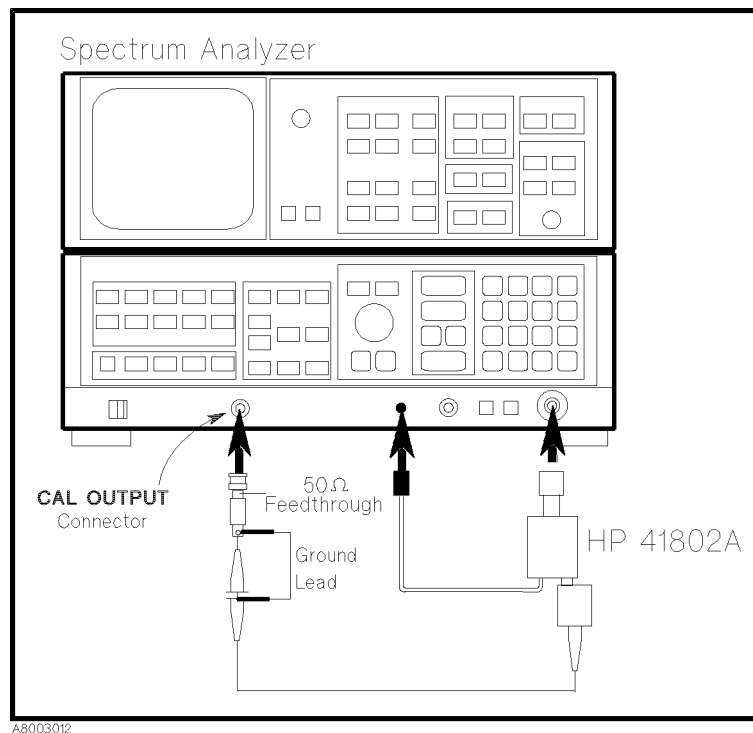

Figure 3-7. Probe Adjustment Setup Using Spectrum Analyzer
1. Connect the equipment as shown in Figure 3-7. Note that the probe power plug must be connected before the 41802A's N-type connector. Connect the ground lead firmly to provide good electrical bond.